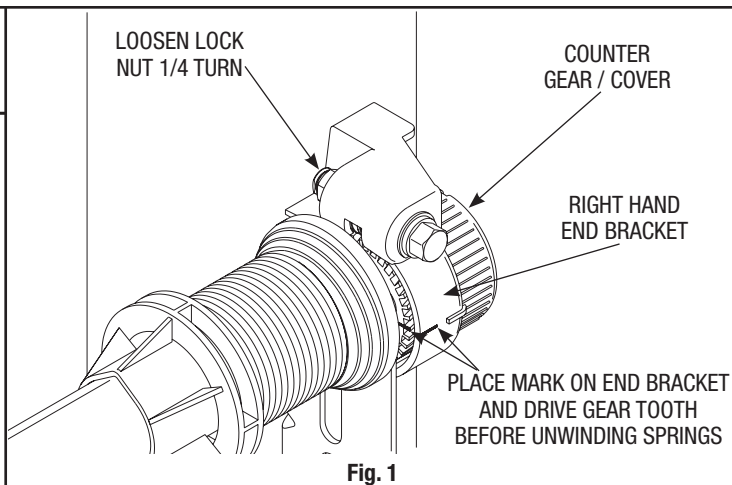

Fig. 1
**Step 1: If you have a black counter cover:** Place a mark on the drive gear tooth and an adjacent mark on the right hand end bracket (Fig. 1). Loosen the lock nut 1/4 turn using a 7/16" wrench and continue with step 2.